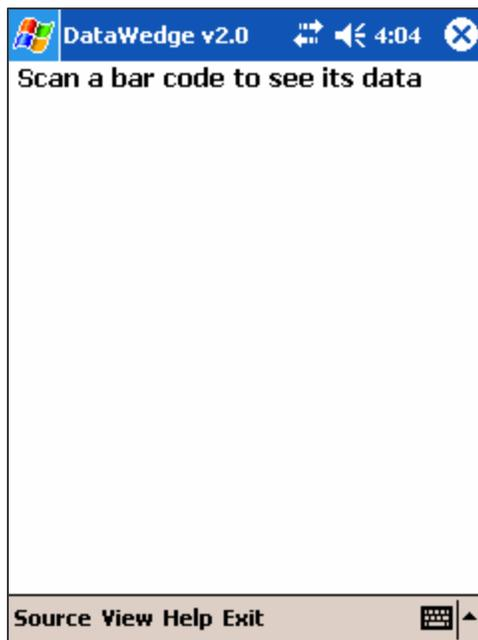

Figure 2
In normal use, DataWedge presents no User Interface (UI) and all incoming data is sent to the foreground application via keyboard messages. DataWedge can display a main window by tapping the icon on the system tray and then tapping “Launch” or by launching DataWedge when it is already running. See Figure 2. DataWedge can display various dialogs to allow configuration of program options. DataWedge includes a Test Window that displays the incoming data rather than sending them as keyboard messages.